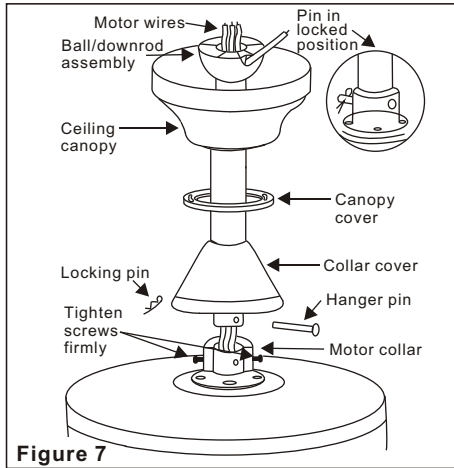

Figure 7
**Step 6.** Route wires exiting from the top of the fan motor through the collar cover, canopy cover, canopy and then through the ball / downrod.(Fig. 7)
**Step 7.** Align the holes at the bottom of the downrod with the holes in the collar on top of the motor housing(Fig.7). Carefully insert
the hanger pin through the holes in the collar and downrod. Be careful not to jam the pin against the wiring inside the downrod. Insert the locking pin through the hole near the end of the hanger pin until it snaps into its locked position, as noted in the circle inset of Fig. 7.
**Step 8.** Tighten two set screws on top of the fan motor firmly (Figure 7)